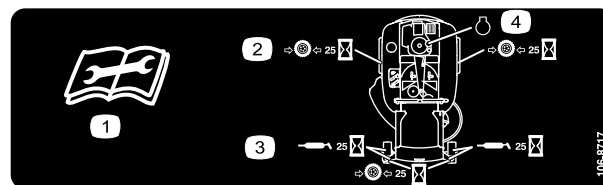

Figure 23
3. Clean the grease fittings (Figure 22 and Figure 23) with a rag. Make sure to scrape any paint off of the front of the fitting(s).
4. Connect a grease gun to each fitting (Figure 22 and Figure 23). Pump grease into the fittings until grease begins to ooze out of the bearings.